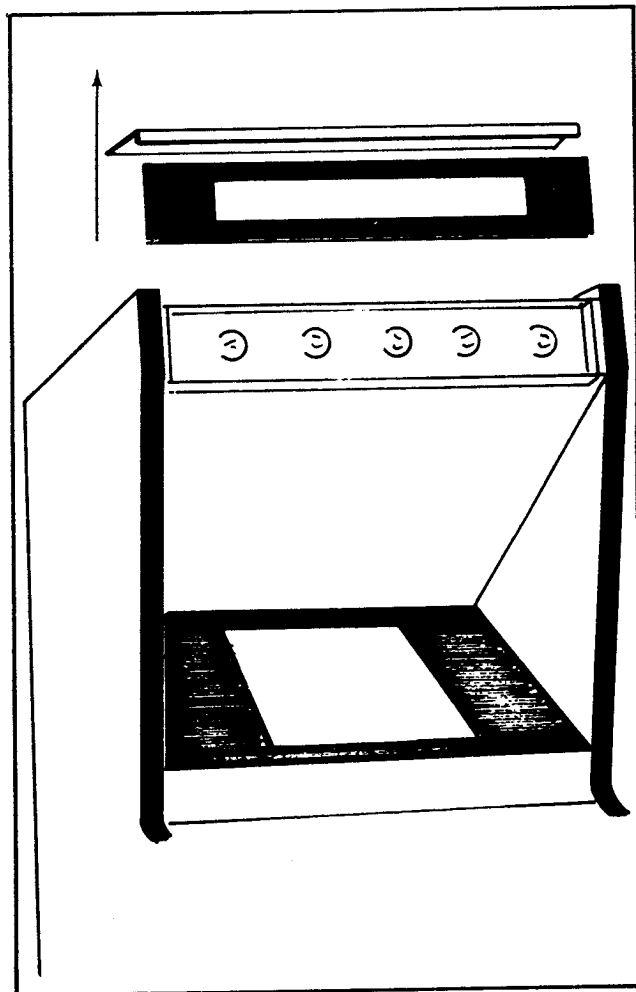

Figure 4-17 Opening Attraction Panel — Mini
2. MINI MODEL. See Figure 4-17.